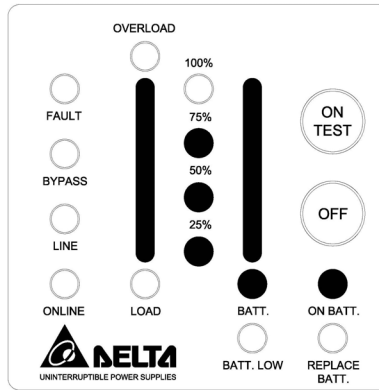

Fig 4-4 On-Battery Mode
- ✓ **ON-BATTERY mode:** When the UPS is in 【ON-BATTERY mode】 , the on-battery LED will light on, buzzer beep half second every 2 seconds and then the UPS will start supplying power to load through batteries. Shown as fig 4-4.